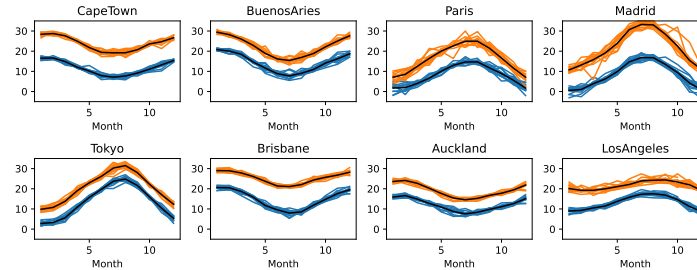

Fig. 8.6: Annual temperature curves for the eight cities in dataset **TEMP\_WORLD.csv** by month; the black line shows the average maximum or minimum temperature
Overlaying the different years, shows that the monthly averages are in general consistent over the years. (see Fig. 8.6).
(1) This observation allows us to reduce the dataset to average monthly temperatures. The average temperature is overlaid in black on the graphs in Fig. 8.6.